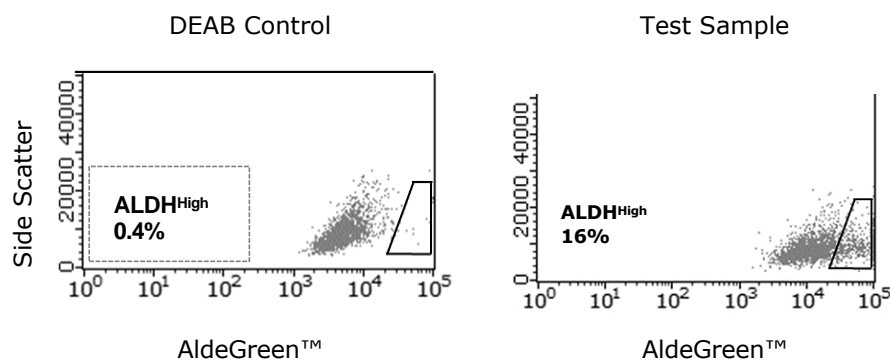
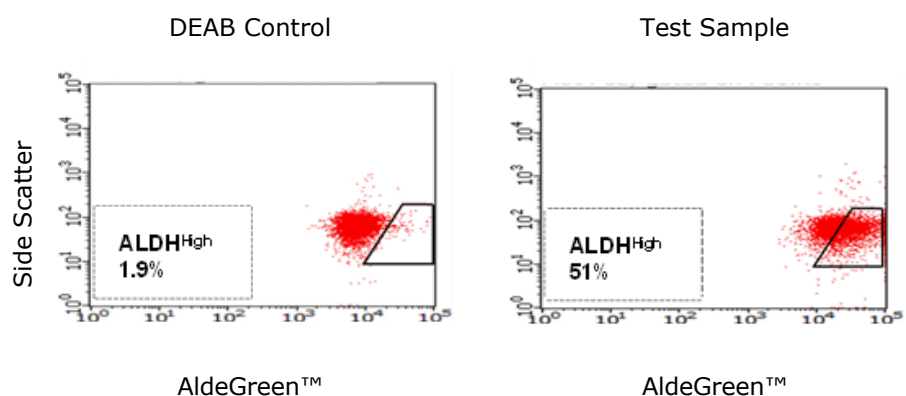

Figure 2. ALDH activity in UM-SCC-47 HPV-16 Positive Squamous Carcinoma cell line (SCC071).
Figure 3. ALDH activity in K562 chronic myeloid leukemia cells.
Note: Cell concentration may require optimization for each cell type (For example, optimal concentration of SK-BR-3 cells is $1-2 \times 10^5$ cells/mL, see Fig. 2). Testing a range of cell concentrations is recommended for determining the highest signal to background ratio (For example, test sample to DEAB-treated control sample).
3. Run a corresponding "test" sample and create a region R2 that contains ALDH High cells (see Fig. 2 and Fig. 3).